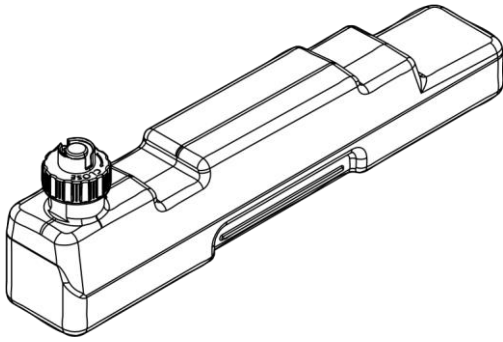

Fig 7
13. Put a small amount of washing up liquid into the sump, and using the supplied brush, gently clean all surfaces in the sump and gently clean the transducer including the metal discs located in the top grooved surface. (See Fig.7)